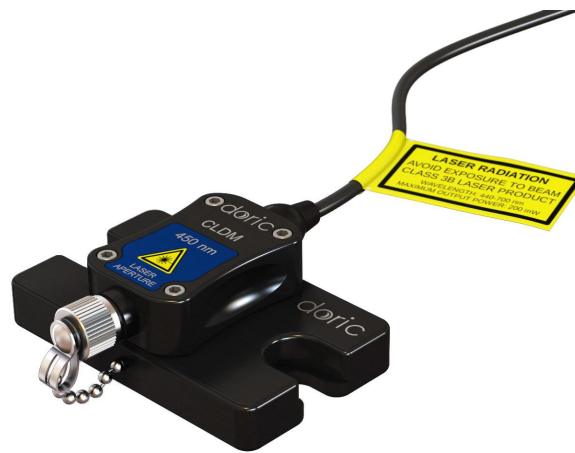

Figure 2.1: Connectorized Laser Diode Module
The *Connectorized Laser Diode (LD) Module* (Fig. 2.1) is a compact single laser diode source connectorized for use with FC/APC-connectorized patch cords. These modules are available for wavelengths from 405 nm to 638 nm.